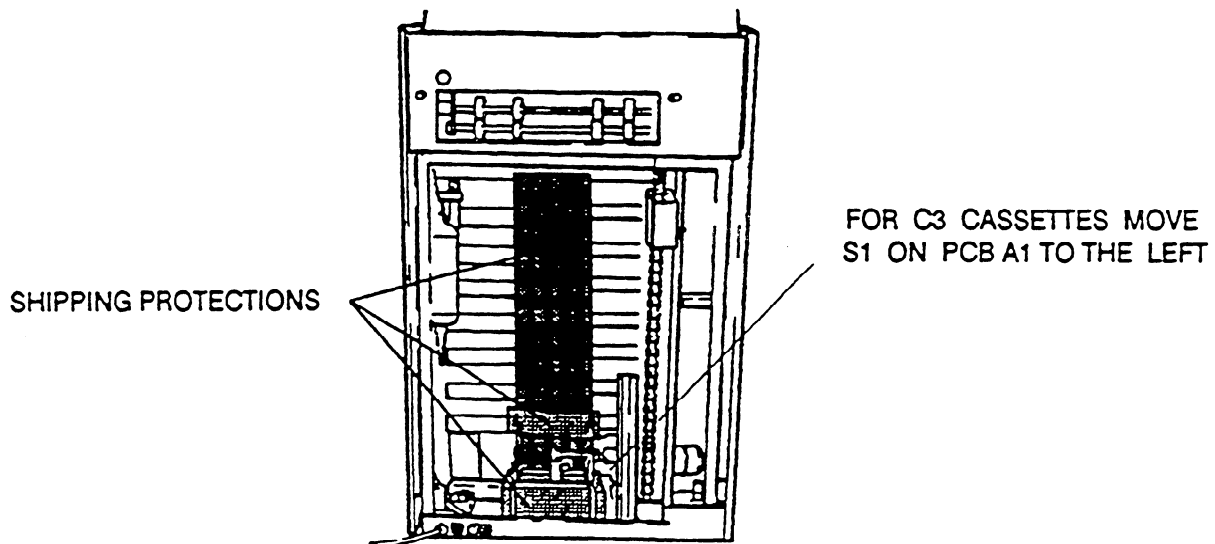

figure 3
9. Remove the SHIPPING PROTECTIONS. (see fig.3)